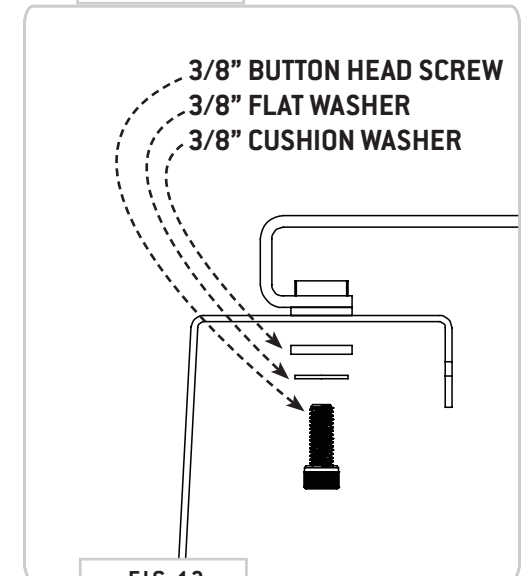

FIG 13
3.1 Once you have the bed rails up and fully mounted, you can simply place the bed panels on and fasten them to the rails using the **3/8-16" Socket Cap Screws, 3/8" Flat Washers and 3/8" Cushioning Washers (FIG 13)**.